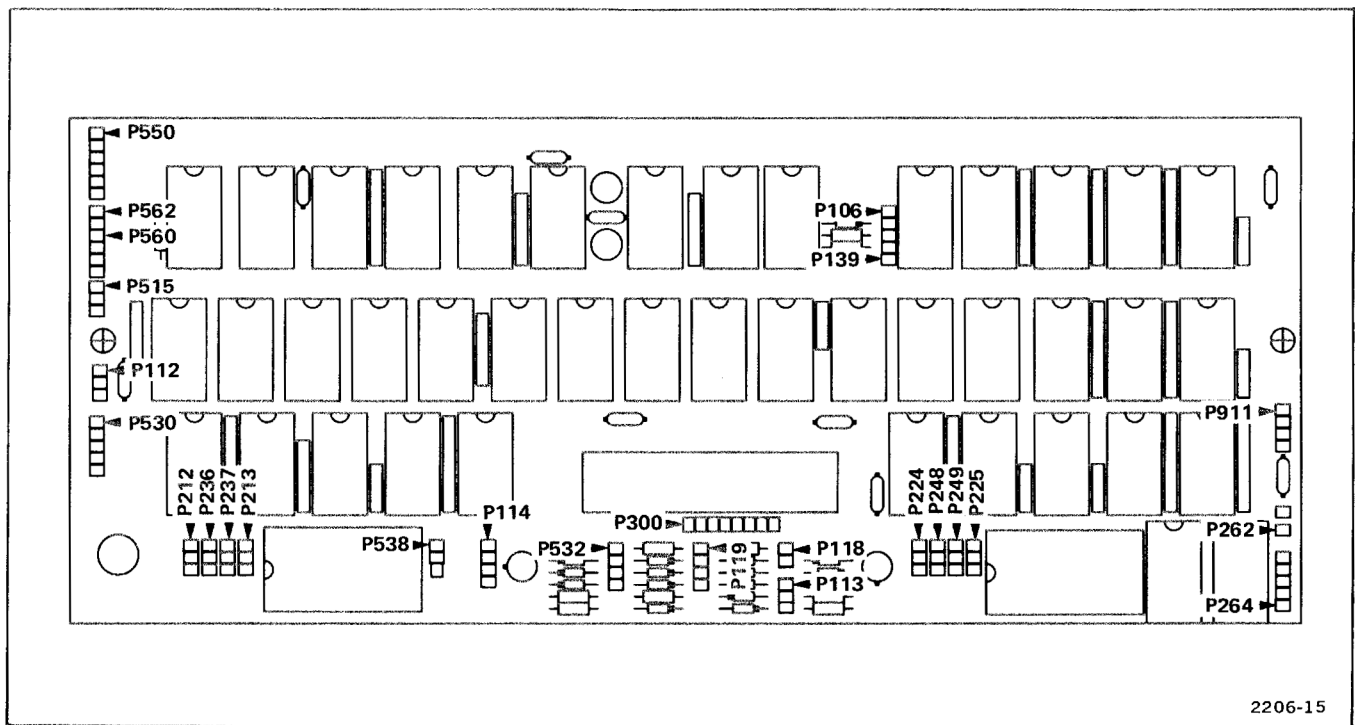

Figure 4-5. Multi-pin connector and P number orientation for the Memory circuit board.
7. Reverse order of removal to complete circuit board replacement. Refer to Figure 4-5 for multi-pin connector and P number orientation.